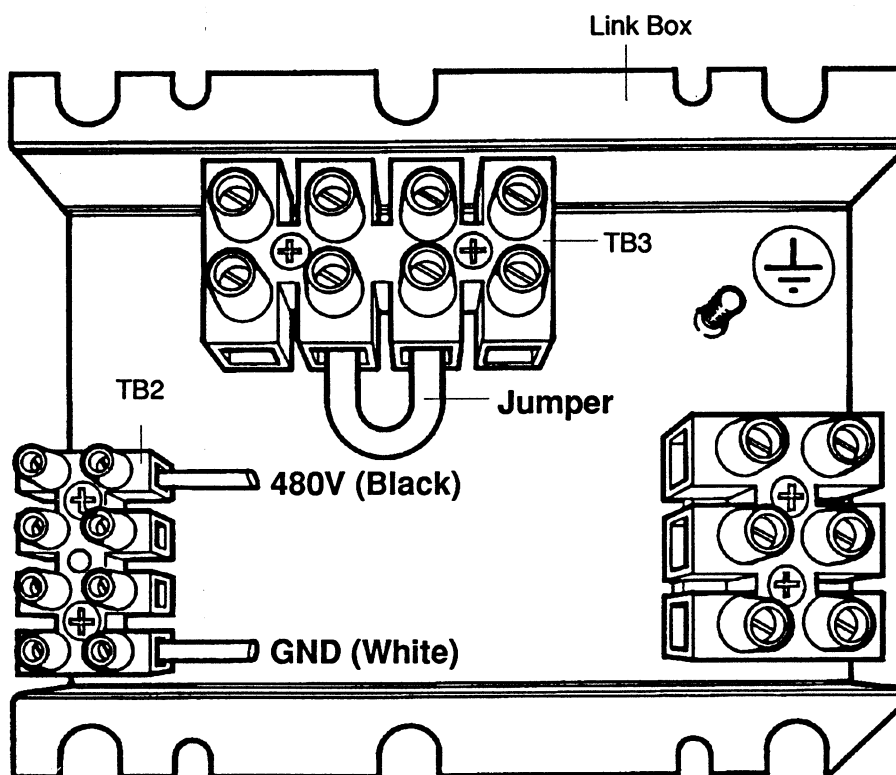

Figure 2-7 Switching Voltage Configuration to 480V
1. Configure TB2 by moving the voltage link wire (Black) to the position shown in Figure 2-7.
2. Configure TB3 with one jumper linked in the position shown in Figure 2-7.